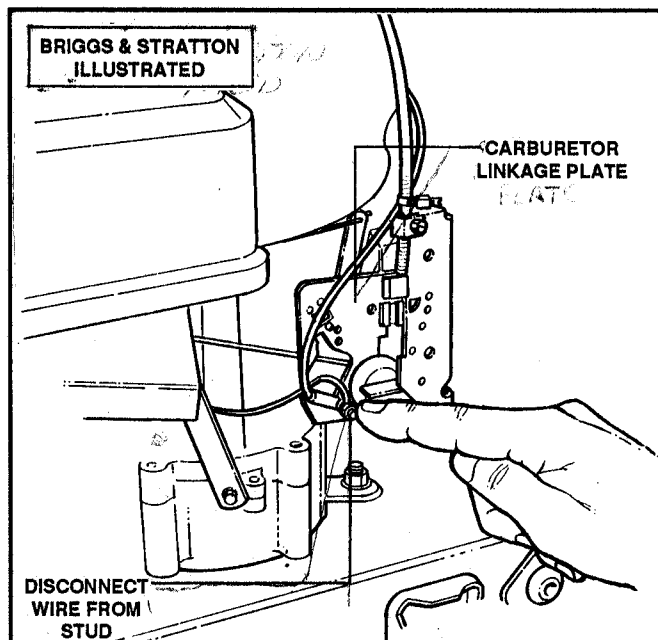

FIGURE 6.3
- (1) Disconnect wire at the grounding stud on the carburetor linkage plate. See Figure 6.3.